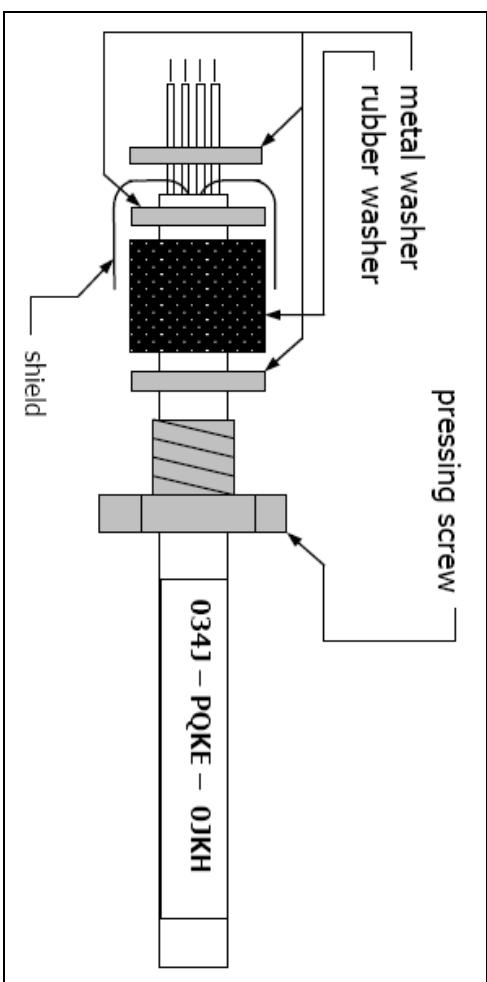

Figure 16: Cable assembling
2. Extract about 4 mm of the wire insulation and tin the wire ends. Place the pressing screw, the rubber washer and the metal washers of the cable gland one after the other onto the prepared cable end (see **Figure 16**).